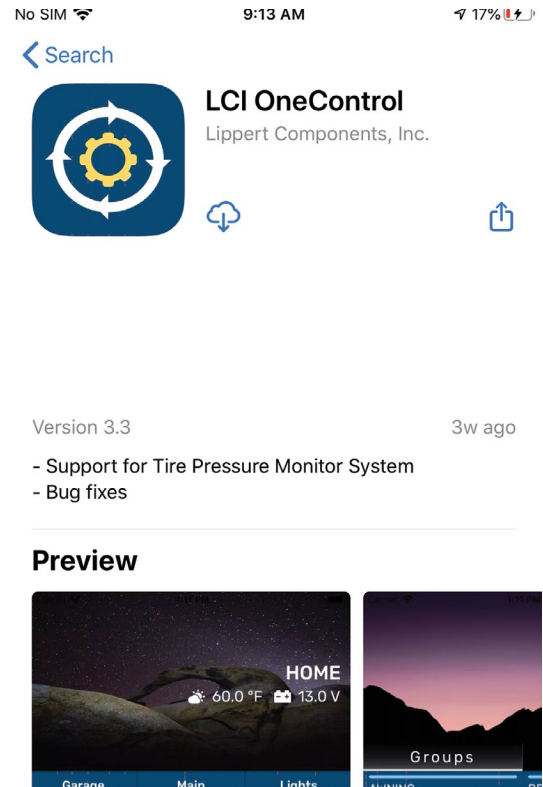

Fig.3
1. Download the LCI OneControl app (Fig.3) for either an iOS or Android smart phone.